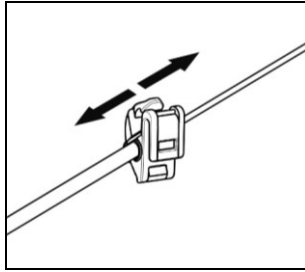

Fig. 24
- Adjust the microphone (Fig. 24).